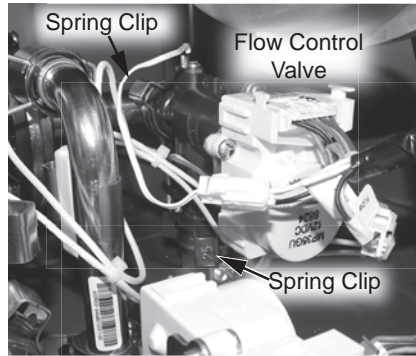

Figure 160 - Flow control valve location
19 Locate the flow control valve at the bottom right side of the water heater. See Figure 160.
20 Remove the two (2) spring clips (size 25) securing the flow control valve to the piping system. Place spring clips aside in a safe place for reinstallation. Remove the flow control valve from pipe connections and set aside in the water heater cabinet. See Figure 160.